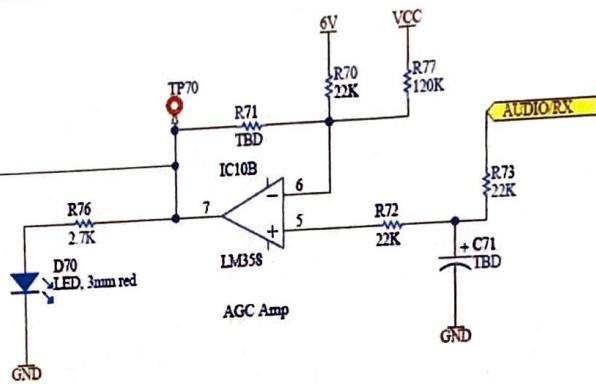

Figure 4: Automatic gain control circuit.
2. The automatic gain control (AGC) circuit of TRC-11 is given in Fig. 4.
1. Now, we are ready to incorporate the automatic gain control (AGC) circuitry to prevent saturation of the IF amplifiers. Refer to Fig. 4. Place R70, R72, R73, R75, R77, and D71.